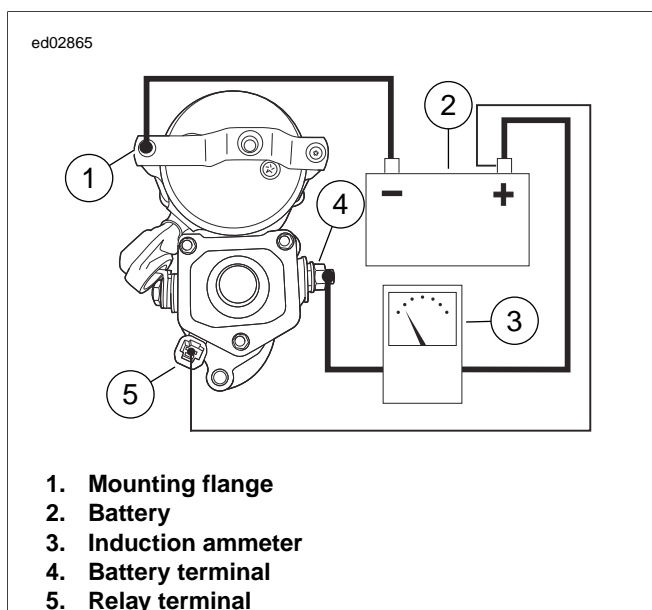

Figure 3-5. Free Running Current Draw Test
2. See Figure 3-5. Attach one heavy jumper cable (6 gauge minimum).